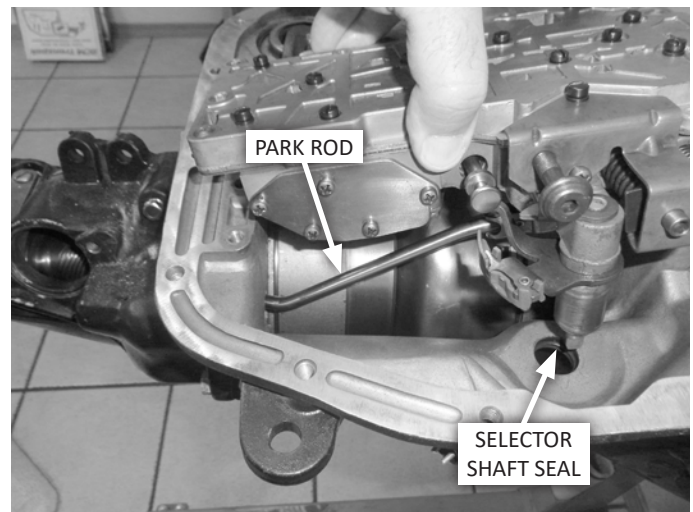

FIG. 11
18. Inspect the selector shaft seal (Fig. 11), and replace if necessary. Lubricate the seal and selector shaft with assembly grease or transmission fluid. With the selector lever still in LOW (for maximum extension of the park rod), carefully guide the valve body into the transmission, inserting the park rod into its hole in the case.